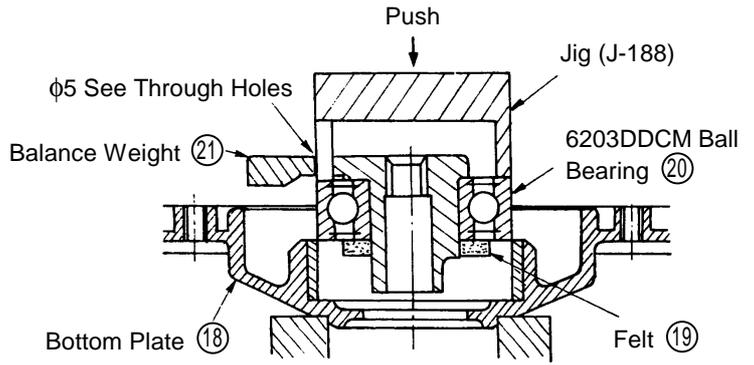

Fig .10
- C. Finally, as illustrated in Fig. 10, mount a J-188 Jig (Special Repair Tool, Code No. 970969 and press fit the assembled Balance Weight ㉑, 6203DDCM Ball Bearing ㉑ and Felt ㉒ into the Bottom Plate ㉓.